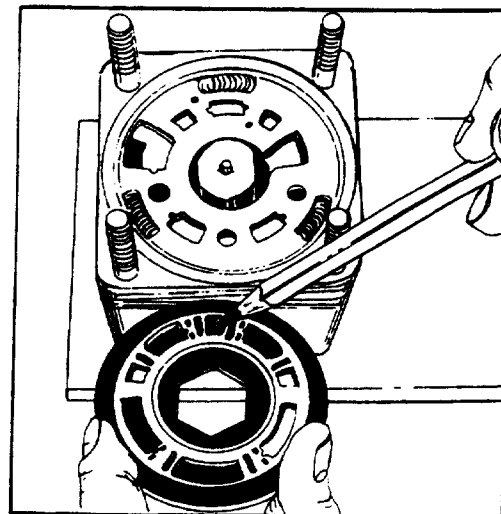

FIGURE 82.
34. To install the valve plate (13) correctly, first carefully study figures 82 and 83 for positioning of the valve plate (13) spring slots and its other cavities in relation to the spring and spring recesses on the isolation manifold (15). Be sure to use the alignment grooves on the side of the isolation manifold for orientation.
Place the valve plate (13) with the surface that reads "shaft side" down over the hex drive assembly (10), aligning the three spring slots centrally over the three springs placed in the spring recesses of the isolation manifold (15). The valve plate spring slot with the small cavity and then the words "port side" centrally below it as pointed to in figure 82, must be placed over the spring and spring recess in the isolation manifold at the top (at 12 o'clock) as shown in figures 82 and 83. Adjust the valve plate position radially to centralize the spring slots over the springs and the spring recesses in the isolation manifold.